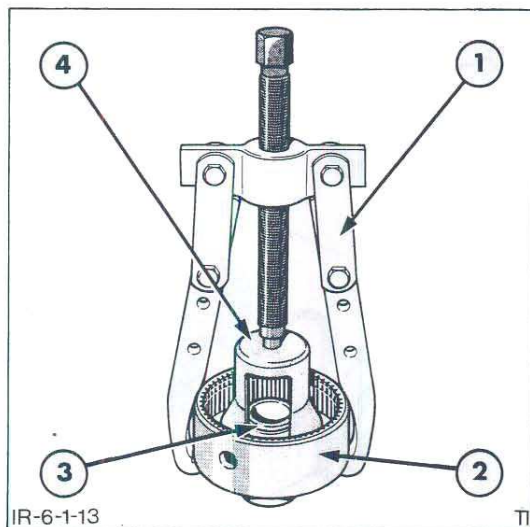

Figure 13
3. Using Puller, Tool No. 1003 or 9516 and Compressor Tool No. FT.4101 or 1312, compress the clutch piston return spring and withdraw the snap ring, Figure 13.